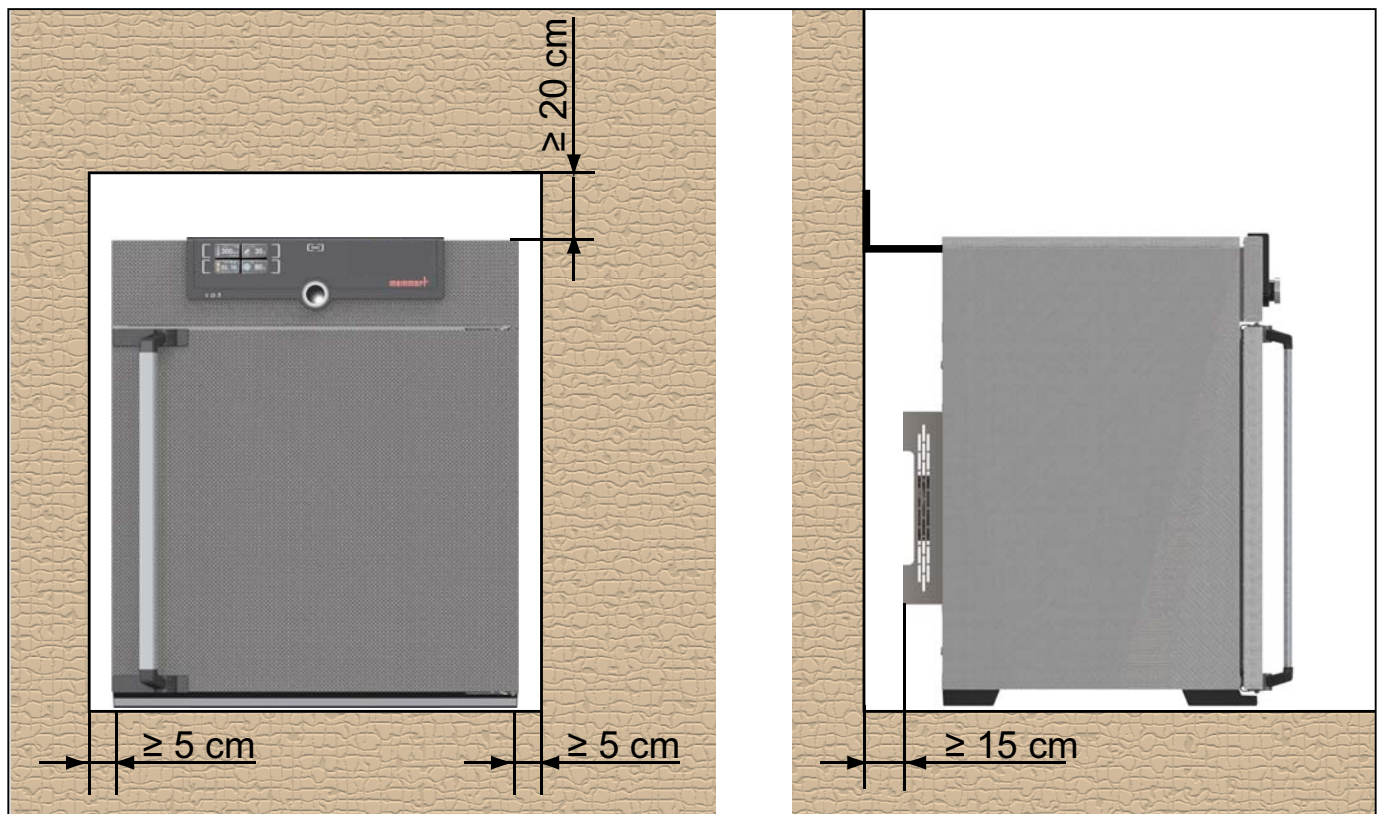

Fig. 7 Minimum clearance from walls and ceiling
The distance between the wall and the rear of the appliance must be at least 15 cm. The clearance from the ceiling must not be less than 20 cm and the side clearance from walls or nearby appliances must not be less than 5 cm (Fig. 7). Sufficient air circulation in the vicinity of the appliance must be guaranteed at all times.
2. Bend the tilt protection upwards by 90 ° in the desired distance to the wall (consider the minimum distance to the wall, see Fig. 7).